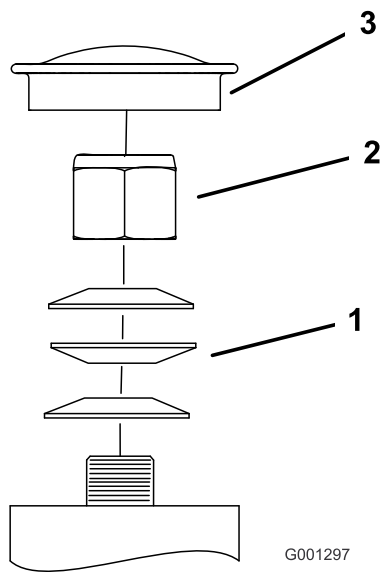

Figure 69
3. Remove the dust cap from the caster and tighten the locknut (Figure 69).
4. Tighten the locknut until the spring washers are flat and then back off a 1/4 turn to properly set the pre-load on the bearings (Figure 69).
Important: Make sure that the spring washers are installed correctly as shown in Figure 69.
5. Install the dust cap (Figure 69).